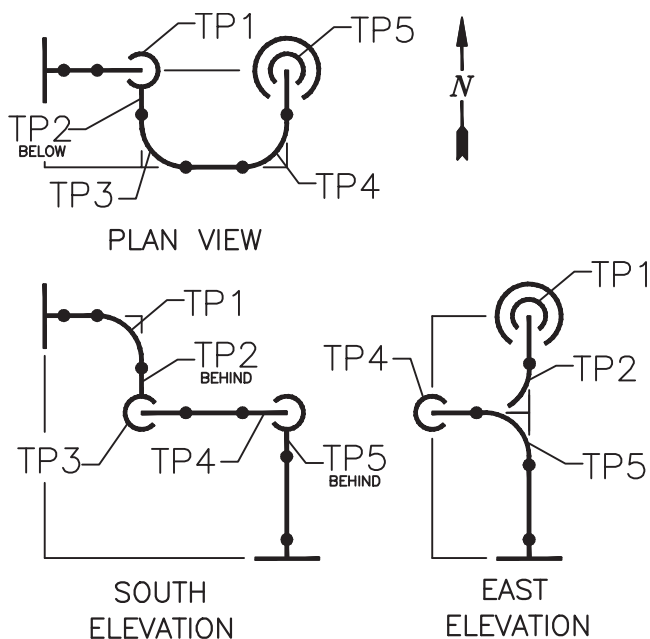
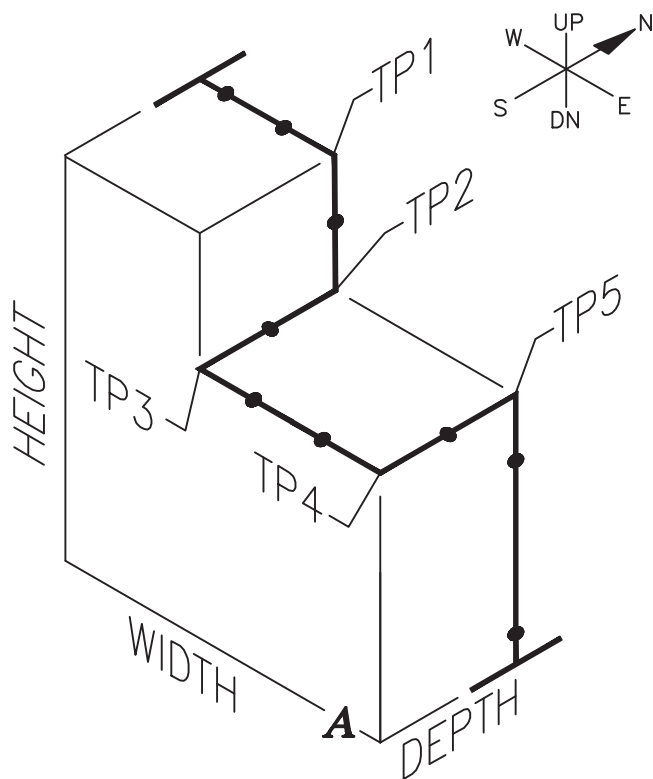
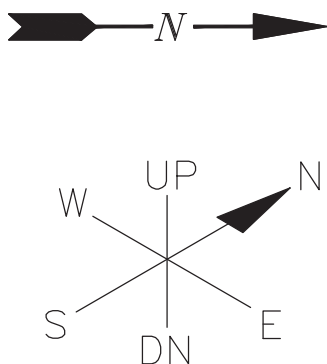

FIGURE 13.3 Piping orthographic views.
FIGURE 13.4 Piping isometric view.
FIGURE 13.8 Orthographic and isometric north arrows.
like fittings, flanges, or valves are incorporated. However, by combining the height, width, and depth dimensions found on Plan, Section, or Elevation views, a single pictorial view can result in a drawing that provides greater clarity of the piping configuration. A comparison between the orthographic views shown in Figure 13.3 and the isometric in Figure 13.4 demonstrates that an isometric with piping symbols is obviously clearer and easier to understand than standard orthographic views.
To be successful in drawing isometrics, the pipe drafter must be able to interpret the information conveyed by the drawing symbols of fittings, flanges, or valves represented on piping arrangement, section, and elevation drawings and transfer that information to the isometric. Note in Figures 13.3 and 13.4 that the elbow symbols differ in the orthographic and isometric views. Piping symbols used on plan, section, or elevation drawings dictate whether a pipe turns left, right, up, or down. When the pipe represented on an orthographic drawing makes a change in direction, that change must also be reflected on the isometric drawing. The point at which the pipe changes direction can be referred to as the *turning point* (TP). To correctly draw the isometric representation of a pipe shown on a plan, section, or elevation view, the pipe drafter must be knowledgeable in the use of piping symbols used in orthographic views and the corresponding symbols used on isometric views.
by transferring distance and direction from the orthographic view. Similarly, on piping isometrics, establishing a point of reference is imperative. Although the *A* can be seen in Figures 13.3 and 13.4, it is not an adequate point of reference. The complexity of piping configurations requires a more descriptive "point of reference" be used to establish orientation between the orthographic and isometric views. In the piping discipline a *north arrow* is used as a "point of reference." Accurate isometric layout is based on the correlation of the orientation of the north arrow on the Piping Arrangement drawing and the north arrow on the piping isometric. Figure 13.8 illustrates the representation of the north arrow on the arrangement drawing and the north arrow on the isometric.